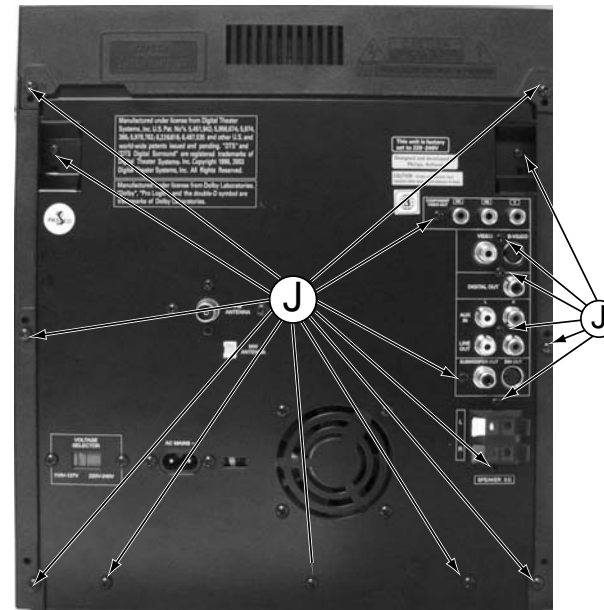

Figure 11
- 1) Loosen 8 screws 'J' to remove the Rear Panel figure 11.
- 3) Release 2 catches 'K' on both sides of the Rear Panel with the help of a minus screw driver and pull out the Rear Panel figure 11.